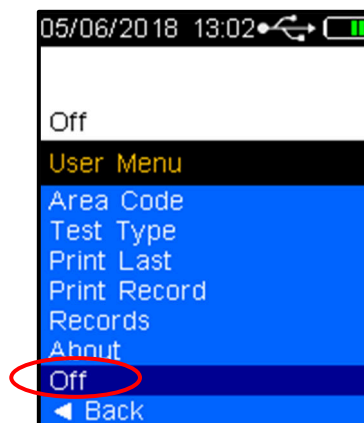

Figure 25 - Off Displayed
- Using the down button, scroll down to Off. (Refer to Figure 25).